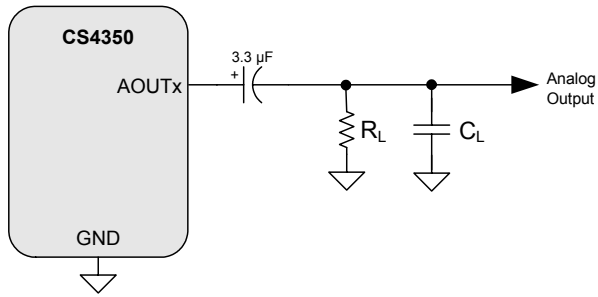
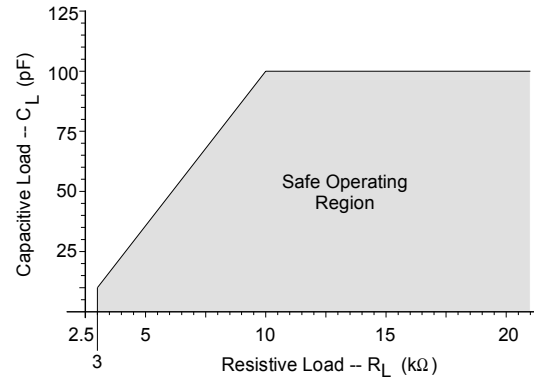

Figure 1. Equivalent Output Load
Figure 2. Maximum Loading
- R_L and C_L represent the minimum resistance and maximum capacitance required for the CS4350's internal op-amp to remain stable. See Figure 1 and Figure 2 for more details.